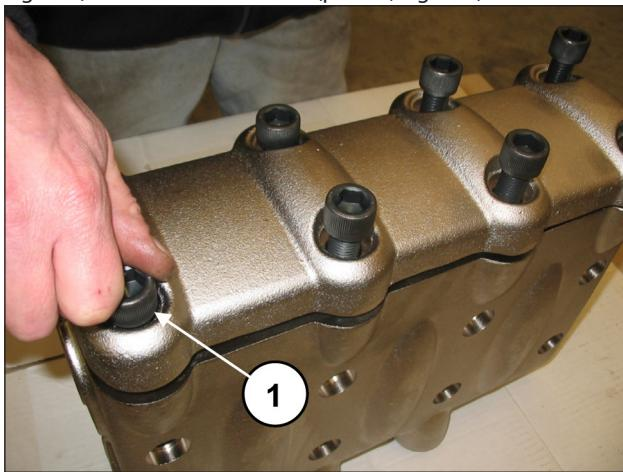
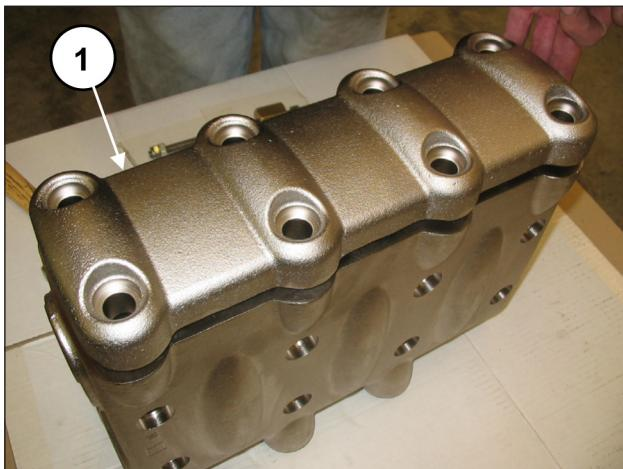

Fig. 106
Fig. 107
Remove the 8 M16x55 screws of the valves cover (pos. ①, Fig. 106) and remove the cover (pos. ①, Fig. 107).